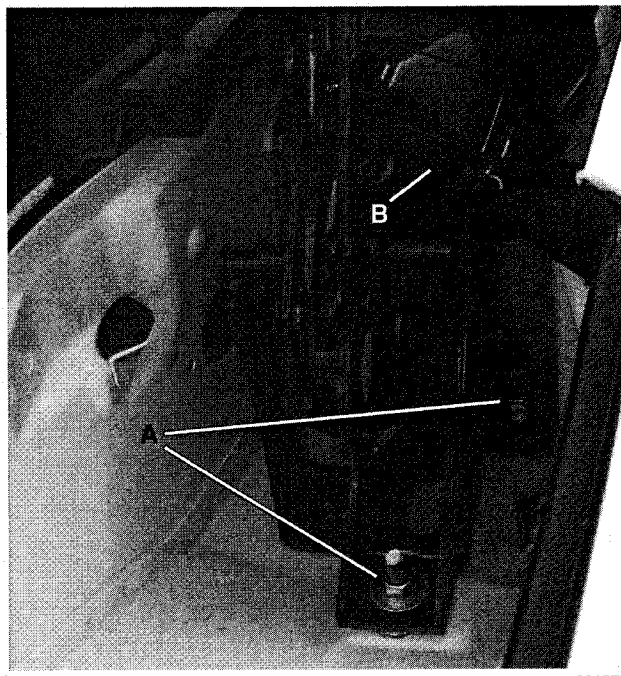

Fig. 12. Mounting nuts (A) for convertible top (two on each side). There is also a horizontal bolt with spacers on each side (B).
7. Remove fasteners in bottom of storage compartments behind door posts and lift out complete top. Note number of shims on horizontal mounting bolt. See Fig. 12.